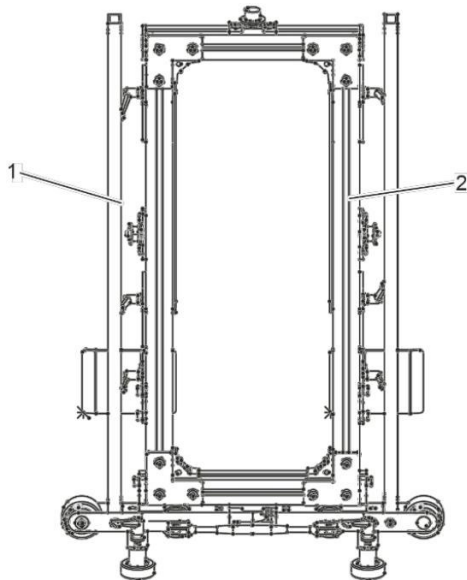

Fig. 8: Place lower inner frame on outer frame
1. → Place the inner frame (Fig. 8/2) on the lower half of the outer frame (Fig. 8/1).